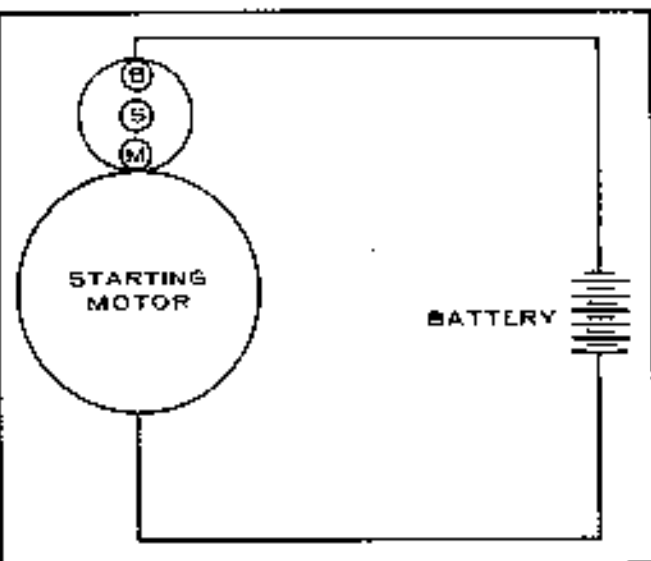
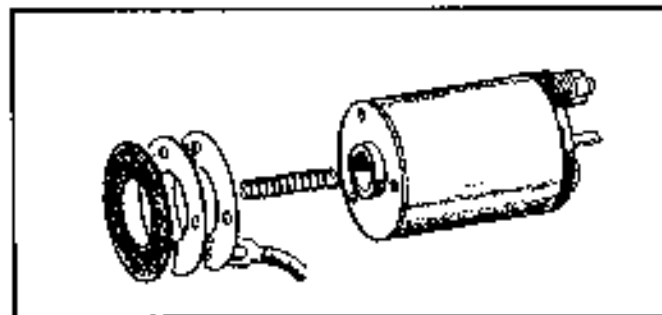

FIGURE 18-24. BATTERY CONNECTIONS
FIGURE 18-25. ADJUSTING PINION CLEARANCE
2. **Adjusting Pinion Clearance:** Connect the battery to the starting motor (Figure 18-24). This allows the starter motor pinion to slide and stop. Measure the clearance between the end of the pinion and pinion stopper when the pinion is pushed lightly toward the commutator end. The clearance should be .02 inch to .06 inch (508 to 1.524 mm). Adjust for proper clearance by removing the magnetic switch attaching screws and select the proper thickness of fiber packings (Figure 18-25).